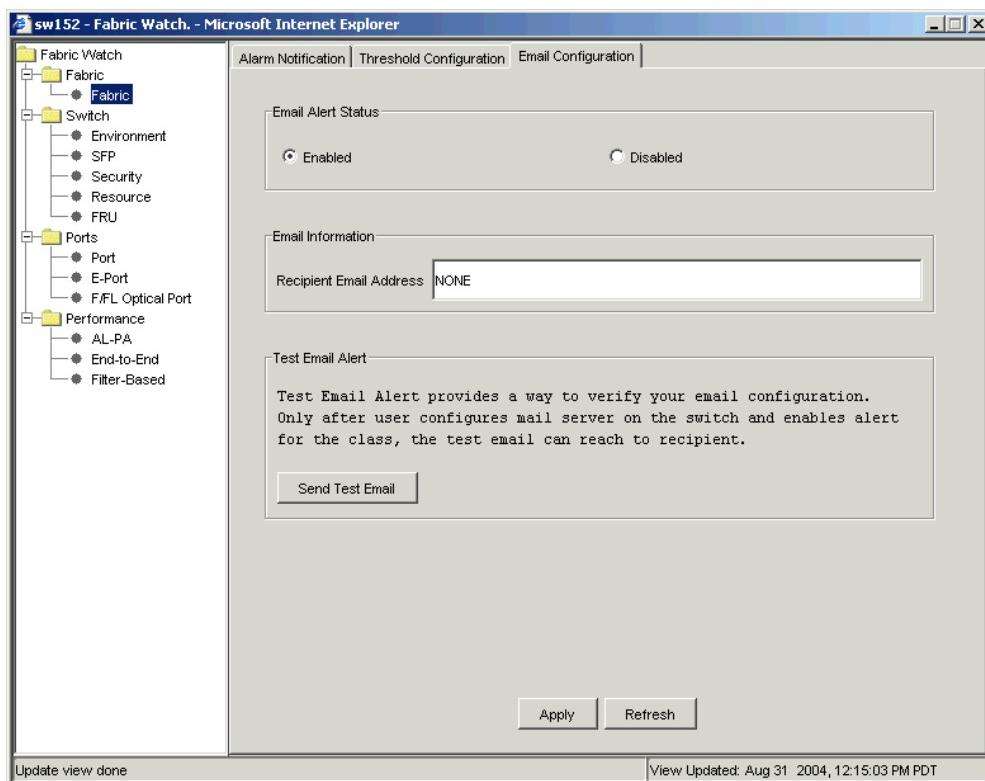

Figure 49 Fabric Watch e-mail configuration
2. Select the **Email Configuration** tab, as shown in Figure 49.